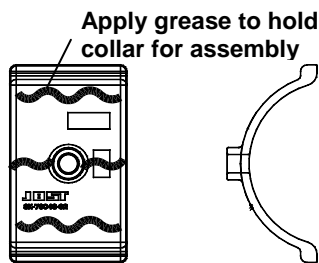

FIGURE 4
4. Identify proper collar (item 4). See LT SK37F-05 for identification, and then apply grease to the top surface of the collars as shown in figure 4.
5. Install collars (item 4) into the pivot pockets of the fifth wheel topplate.